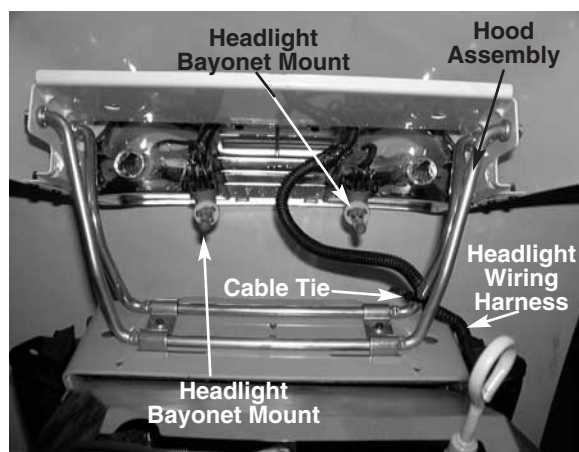

FIGURE 2.
6. Cut the cable ties securing the headlight wiring harness to the hood assembly. See figure 2.
7. Remove the headlight bayonet mounts from both of the headlights by twisting the sockets 1/4 turn and pulling straight out. See figure 2.